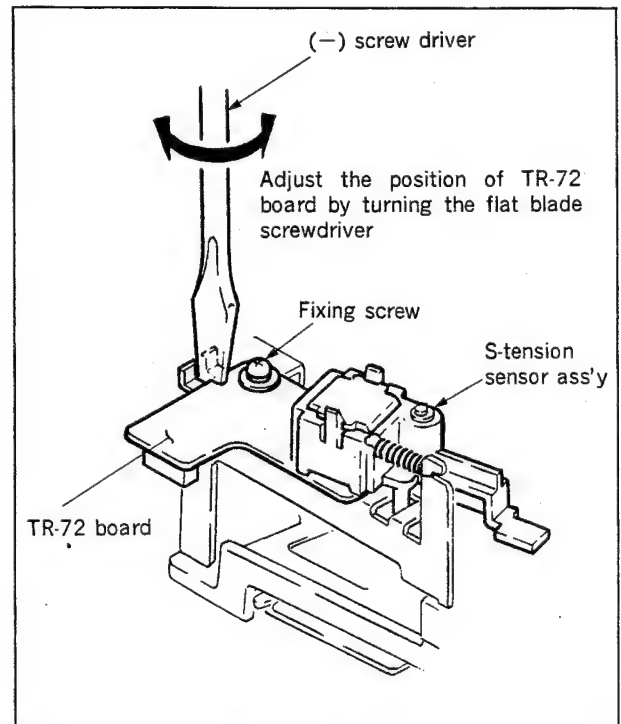

Fig. 5-6-2 TR-72 Board Adjustment
- (1) In step (3), if the voltage of TP802 does not satisfy the specification, adjust it as follows. Loosen a screw of the TR-72 board on the S-tension Sensor Ass'y, insert a flat blade screwdriver into the slot and twist the board right or left until the voltage is satisfied. (Refer to Fig. 5-6-2). Then tighten the screw.
- (2) If the torque does not satisfy the specification in step (5), turn RV805 on the SST-2AP board so that the torque is within the specification.